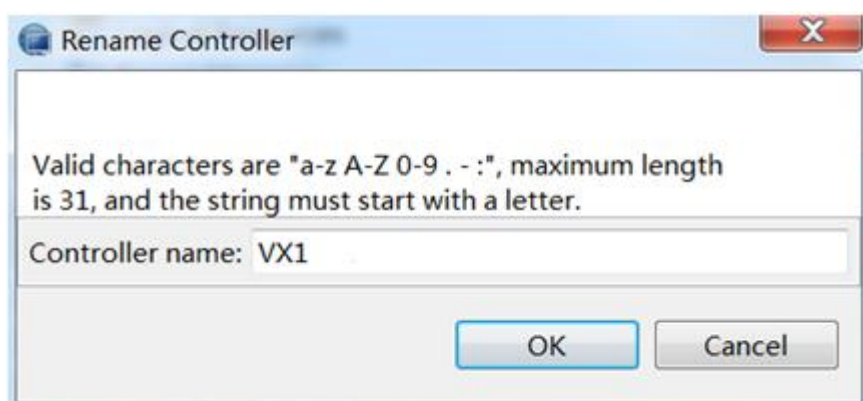

Figure 10-6 Setting the controller name
- (1) Right click the **hostname** node of the storage controller, select the [Server Maintenance > Rename Controller] menu, and input the new name of controller into the popup dialogue box, as shown in the Figure10-6;
- (2) Unless otherwise specified, please follow the format - "**Abbreviated name of Office Name - Equipment Coding**" to name the controller. For example, if the office is University of California, Berkeley, and only an equipment is available (equipment coding is 1), then the name of the storage controller is UCB-1.